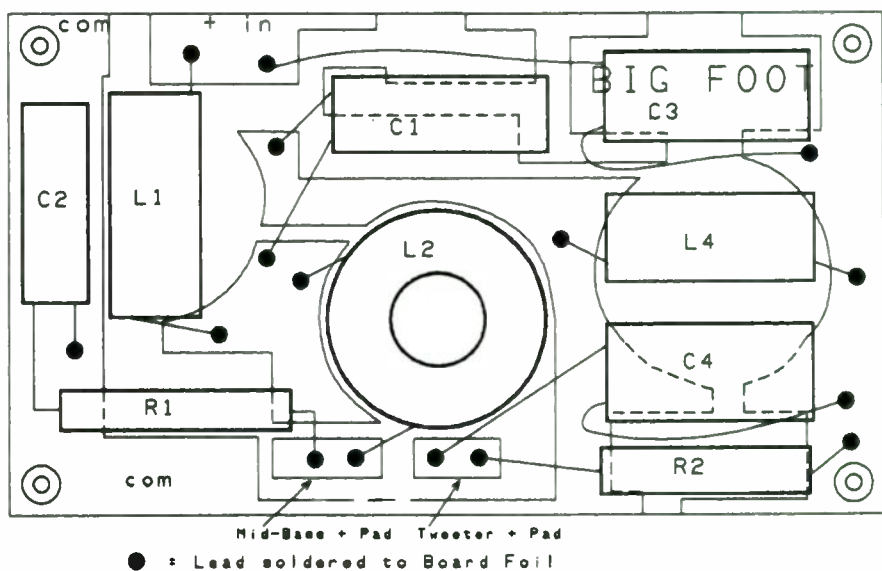

FIGURE 6: Treble Coupler circuit board layout.
**TREBLE COUPLER.** The Treble Coupler crossover and the 4mH coil are assembled on separate circuit boards, available from Madisound Speaker Components (see Sources at end of this article). The assembled satellite crossover is shown in *Photo 1*. Individual components are glued in place with "Goop" and leads are soldered directly to the PC board foil following the placement diagram of *Fig. 6*. L1 and L4 are mounted on edge to reduce mutual coupling between them and L2. A chord is cut across the sides of the coil forms for L1 and L4 to facilitate the on-edge placement.